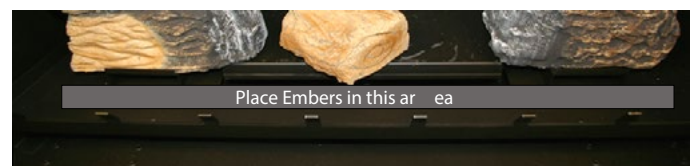

Figure 10f. Placing Embers.
Step 8. Place the Right Center log as shown using the notch in the Top Right log as a guide, **figure 10f**.
Step 9. Place the Embers as shown in **figure 10f**.